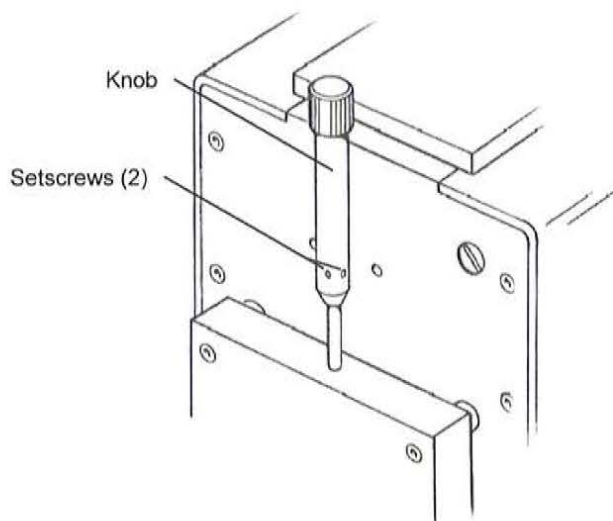

Figure 18 • The Camlock Plate
- Loosen the two setscrews that secure the knob and slide the knob off its rod (see Figure 18).